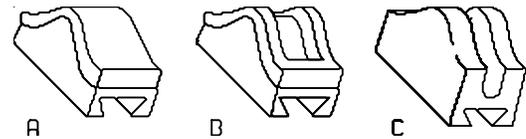

Figure 2
1. Choose an adapter head for the type of fiber to be tested. The F6222 is supplied with three adapters (as shown in Figure 2): (A) *foam-covered*, to accommodate 900 μm buffered fiber; (B) *smooth-surfaced with foam perimeter*, for use with ribbon fiber or a 250 μm coated fiber; and (C) *slotted*, for 3 mm and *optional* 2 mm jacketed fiber (i.e., pigtailed and jumpers) or loose tube fiber.